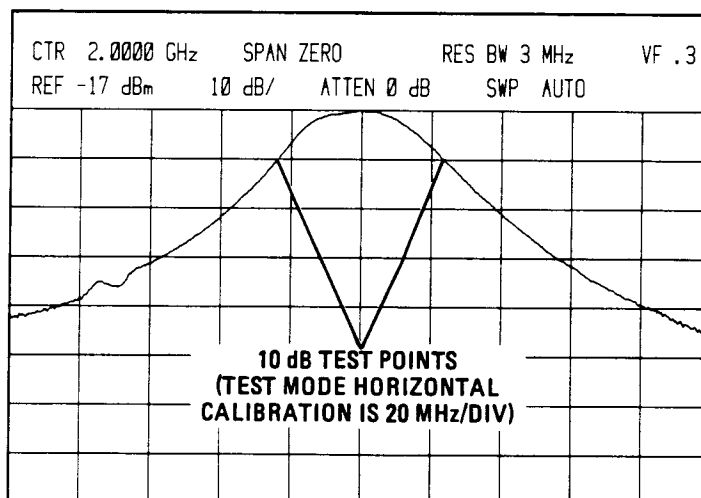

Figure 5-31. YTF Passband Display for YIG Driver Adjustment
- Adjust A19R14 YTF OFFSET to center passband on CRT display (Figure 5-31).
- Adjust A19R17 YTF GAIN to center passband on CRT display (Figure 5-31).